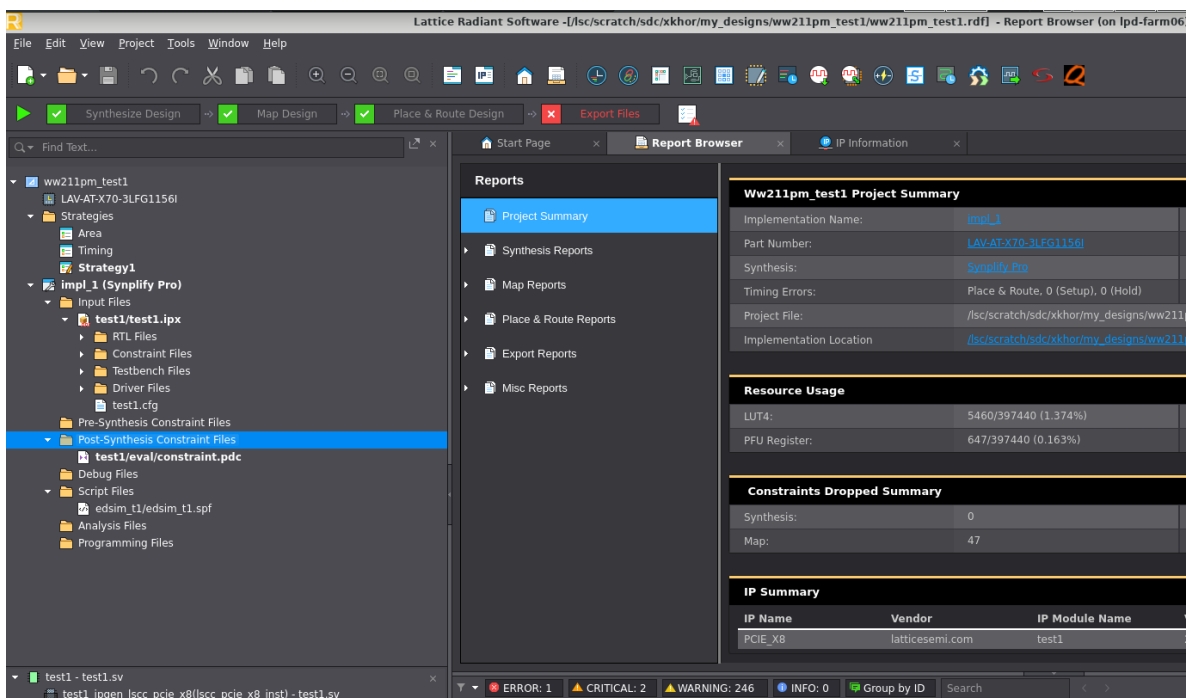

Figure 7.11. Project Compile Done
- Click **Run All** to compile the IP. Successful compilation is shown in Figure 7.11.